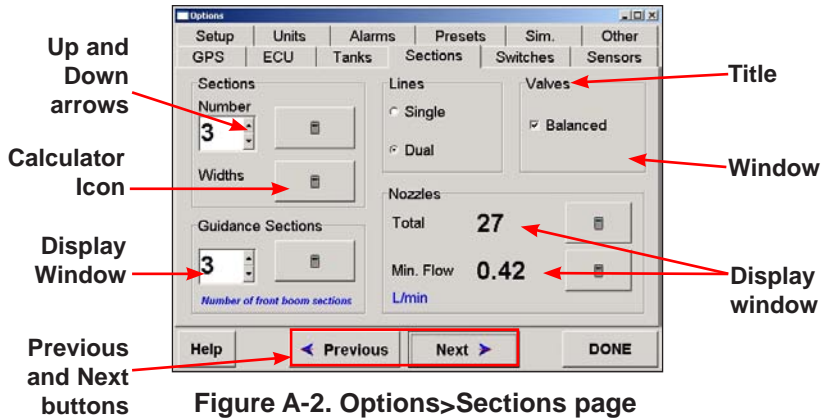

Figure A-2. Options>Sections page
2. Select the **Next** button (Figure A-2 on page A2) to advance to the next page.
- **Windows and Titles**—Each page is broken into areas called windows (Figure A-2 on page A2), these windows are bordered by a thin grey line
Each window has a title (Figure A-2 on page A2), which gives a description of the options available in that window.
- **Up and Down arrows (▲ ▼)**—Next to some display windows (Figure A-2 on page A2) there are up and down arrows, which when pressed alter the current value shown in the display window, without using the calculator button.